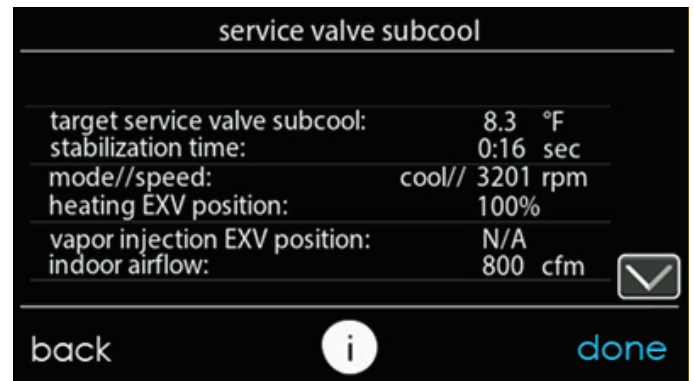

Fig. 15 – Charging Mode Information Screen
7. Upon selecting "Start" the system will enter into charging mode. The outdoor compressor and fan will operate at a fixed speed and the UI will display a stabilization time (see Fig. 15). Once this clock reaches zero the charge can be adjusted to meet the target subcooling.